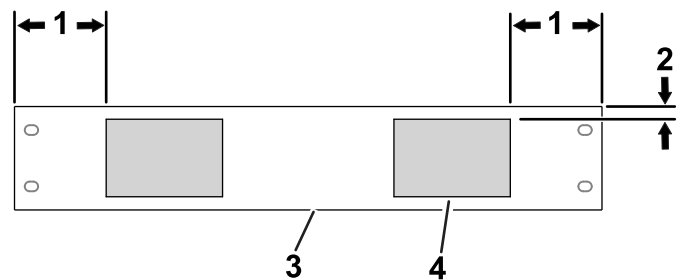

Figure 11
7. Install the foam pads to the battery cover as shown in Figure 11.